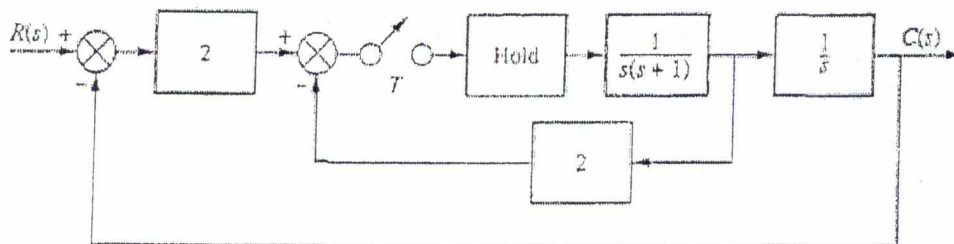

Figure 1 Q 3(a)
3. (a) Find the closed-loop transfer function,  $T(z) = C(z)/R(z)$ , for the system shown in Figure 1 10